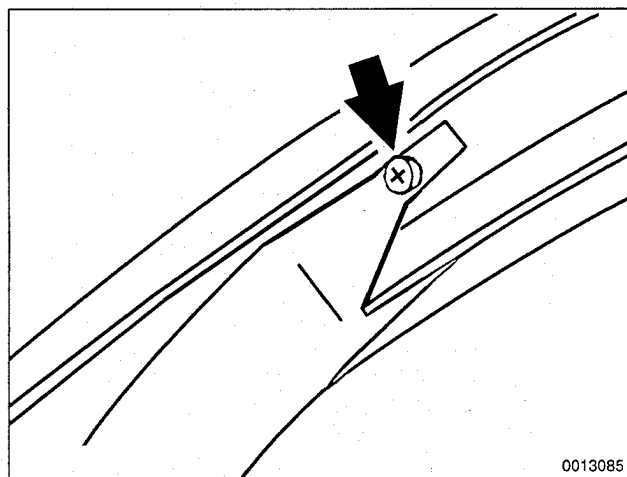

Fig. 10. Rear window track top screw (arrow).
5. Remove window rear track top screw and move track aside. See Fig. 10.